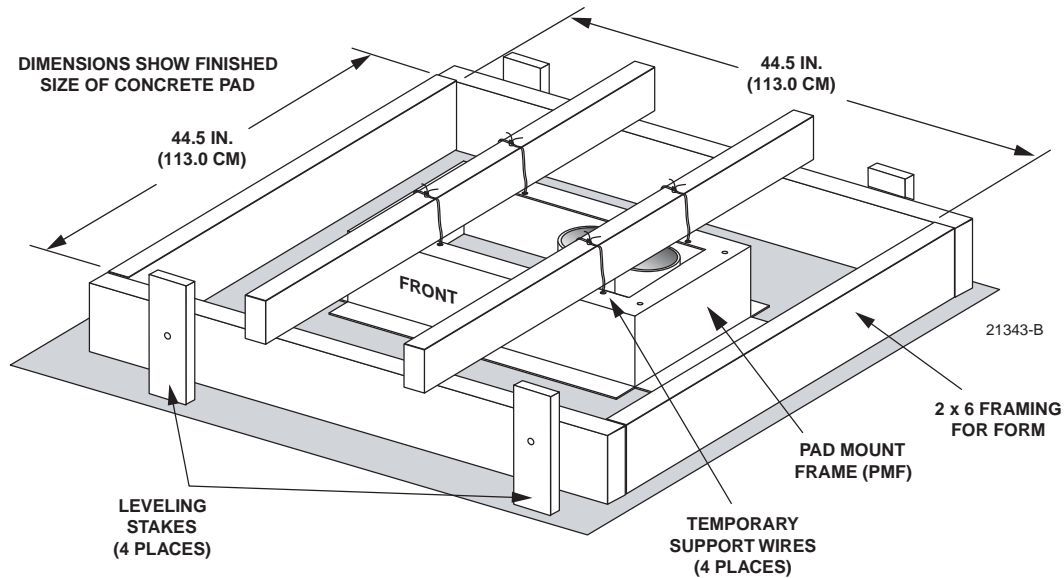

Figure 13. Concrete Pad Framing
1. Build a wood form for the concrete pad using 2 x 6 framing lumber as shown in Figure 13.
- ▶ **Note:** Use temporary top framing to keep the top surface of the PMF flush and level with the top of the concrete pad (see Figure 13).